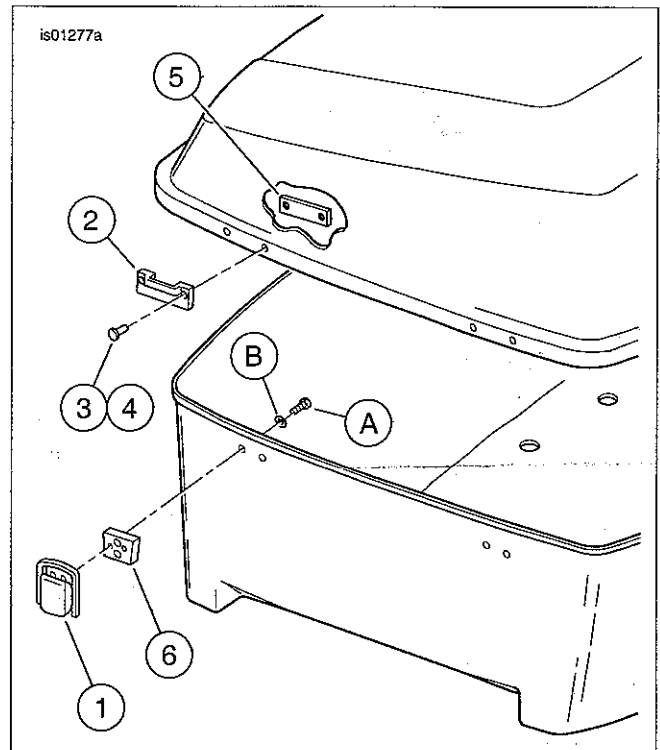

Figure 1. Service Parts, Latch Kit
See Figure 1 and Table 1.
1. See Figure 1. Use a 5/32 in. (4 mm) bit to drill the flared, inside ends off the rivets securing the catch (2) and backing plate (5). Remove and discard the catch, backing plate and rivets.
2. Place the **new** catch and backing plate from the kit in position, and install the correct rivets (item 3 or 4, depending on model) using the HD-39787 rivet tool.
3. Remove the screws (A) and washers (B) holding the spacer (6) and latch assembly (1). Retain the screws and washers, but discard the latch and spacer.